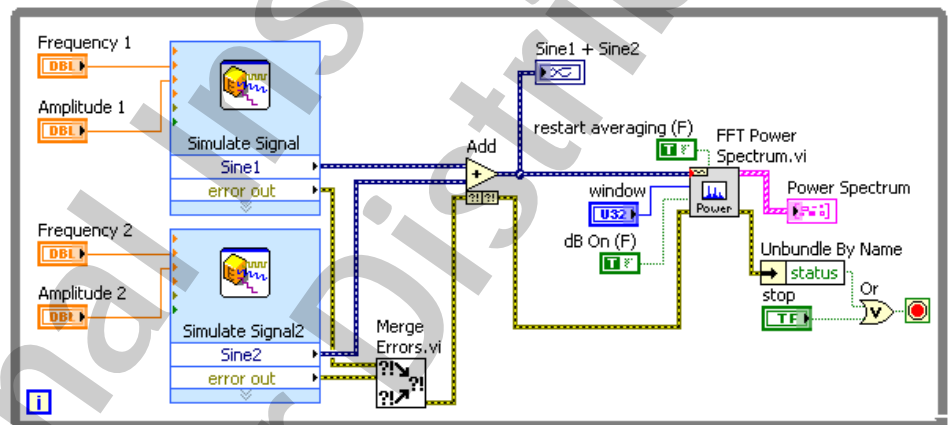

Figure A-5. Window Comparison VI Block Diagram
1. Open a blank VI and build the block diagram shown in Figure A-5 using the following items: